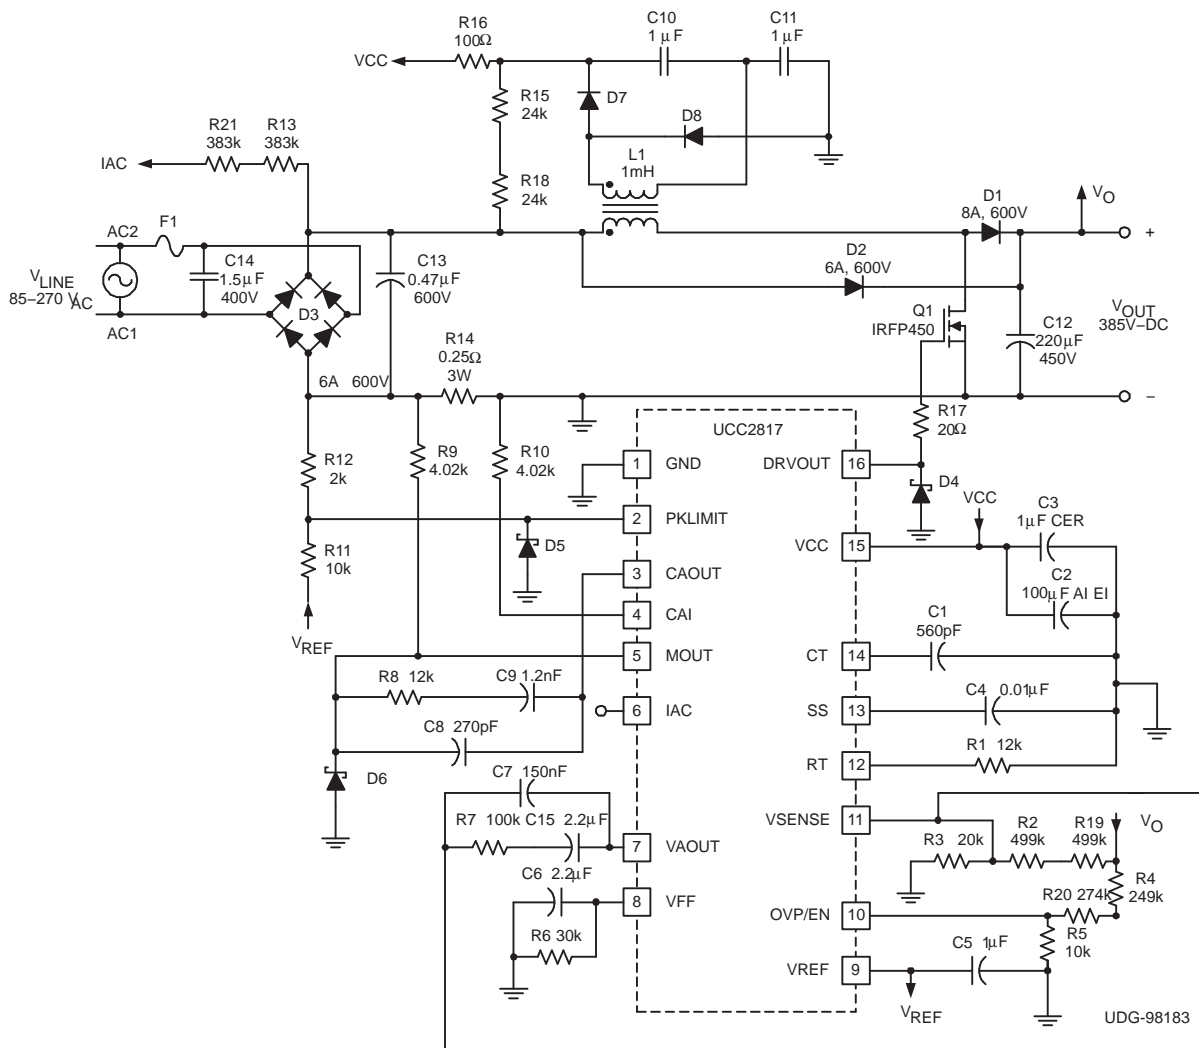

Figure 1. Typical Application Circuit
The UCC2817 is a BiCMOS average current mode boost controller for high-power-factor, high-efficiency, preregulator power supplies. **Figure 1** shows the UCC2817 in a 250-W PFC preregulator circuit. Off-line switching power converters normally have an input current that is not sinusoidal. The input current waveform has a high harmonic content because current is drawn in pulses at the peaks of the input voltage waveform. An active power-factor correction circuit programs the input current to follow the line voltage, forcing the converter to look like a resistive load to the line. A resistive load has 0° phase displacement between the current and voltage waveforms. Power factor (PF) can be defined in terms of the phase angle between two sinusoidal waveforms of the same frequency:
The UCC2818 version of the device is intended to have V_{CC} connected to a 12-V supply voltage. The UCC2817 has an internal shunt regulator enabling the device to be powered from bootstrap circuitry, as shown in the typical application circuit of Figure 1. The current drawn by the UCC2817 during undervoltage lockout, or start-up current, is typically 150 μ A. Once V_{CC} is above the UVLO threshold, the device is enabled and draws 4 mA typically. A resistor connected between the rectified ac line voltage and the V_{CC} pin provides current to the shunt regulator during power up. Once the circuit is operational, the bootstrap winding of the inductor provides the V_{CC} voltage. Sizing of the start-up resistor is determined by the start-up time requirement of the system design.